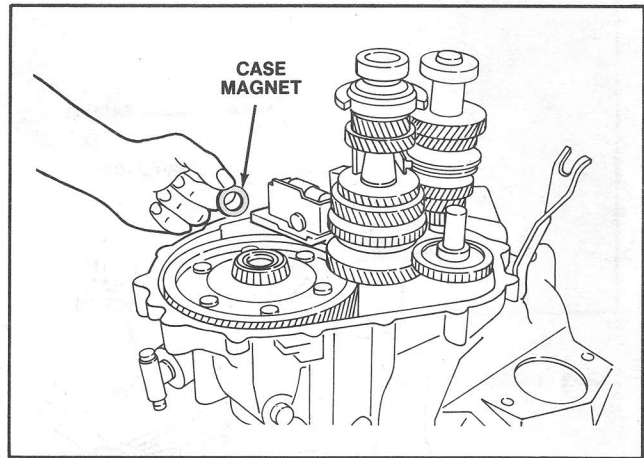

Figure 39 Case Magnet Location
9. Remove the case magnet. (Figure 39).